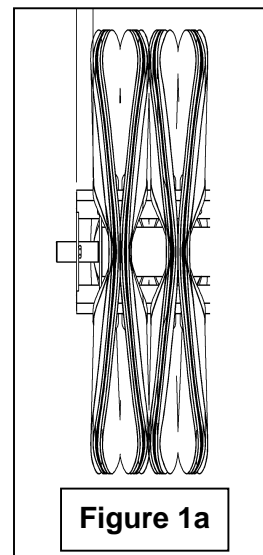

Figure 1a
3. Remove the two bolts (item 2) and withdraw the chain guard (item 1).
4. Remove the right side of the broom (item 5) by unscrewing the three nuts (item 4), the nine bolts (item 3), the lockwasher and the nut (item 6).
5. Remove the bearing and the flanges (item 13) by unscrewing the two setscrews from the bearing.
6. Remove the retaining plate (item 7) by unscrewing the three bolts (item 8).
7. Remove the brushes by sliding them towards the outside of the brush support (item 11).
9. Install each brush (item 9) in the opposite direction of the one next to it (see **Figure 1a**). The two pins on each brush (item 10) that secure the brushes to the support must be alternated 120° (1/3 of a turn) to obtain a balanced distribution on each of the support's three square tubes (item 11).
10. Install the retaining plate (item 7) by tightening the bolts (item 8) and lockwashers firmly.
11. Install the bearing and the flanges (item 13) on the right side (item 5) and reinstall the right side of the broom. Tighten the bearing setscrews (item 13).
12. Check the condition of the chain and realign the chain tensioner (item 12).
13. Reinstall the chain guard (item 1).